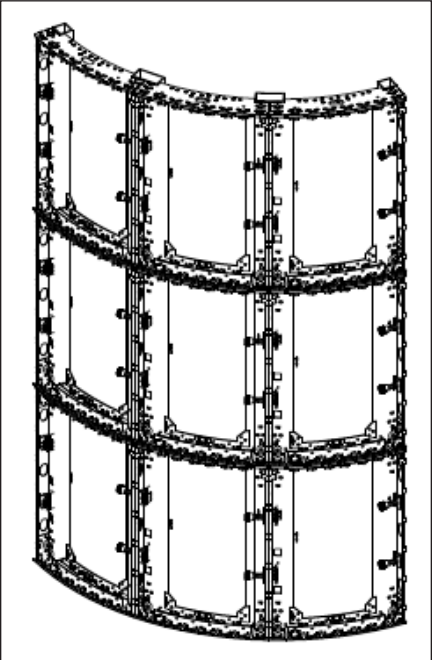

Figure 8: Install Tubes
10. Continue attaching panels up to the top row. Refer to **Figure 8**.